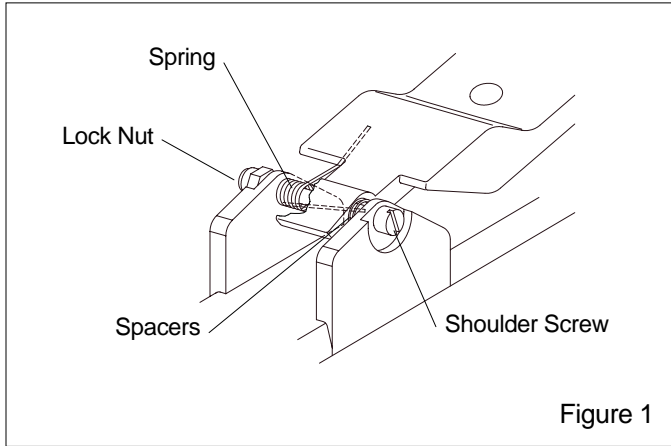

Figure 1
**1.0 Remove Handle Lever, Figure 1**
1.1 Remove the lock nut from the shoulder screw. Before removing the screw, note the positions of the spacers and spring as shown in Figure 1. The bent end of the spring is against the handle lever and facing up. The straight end is against the body and facing down. The spring and spacers must be placed correctly when reinstalling the handle per Section 5.0.
**5.1** Reassemble the handle lever, making sure the spring and spacers are placed as shown in Figure 1. Use a new return spring if the current spring does not raise the handle lever to the full up position.